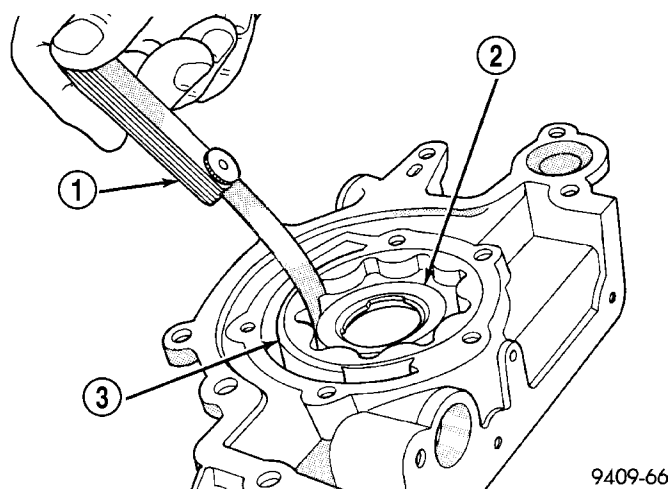

Fig. 123 Measuring Clearance Between Rotors
(6) Install inner rotor into pump housing. If clearance between inner and outer rotors (Fig. 123) is 0.203 mm (0.008 in.) or more, replace both rotors.
(7) Place a straightedge across the face of the pump housing, between bolt holes. If a feeler gauge